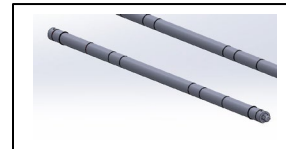

Figure 10
- O. **AutoGrip FILM SHAFT:** The Film Shaft is used for loading standard film onto the Pinnacle 27 Laminator. (Figure 10)